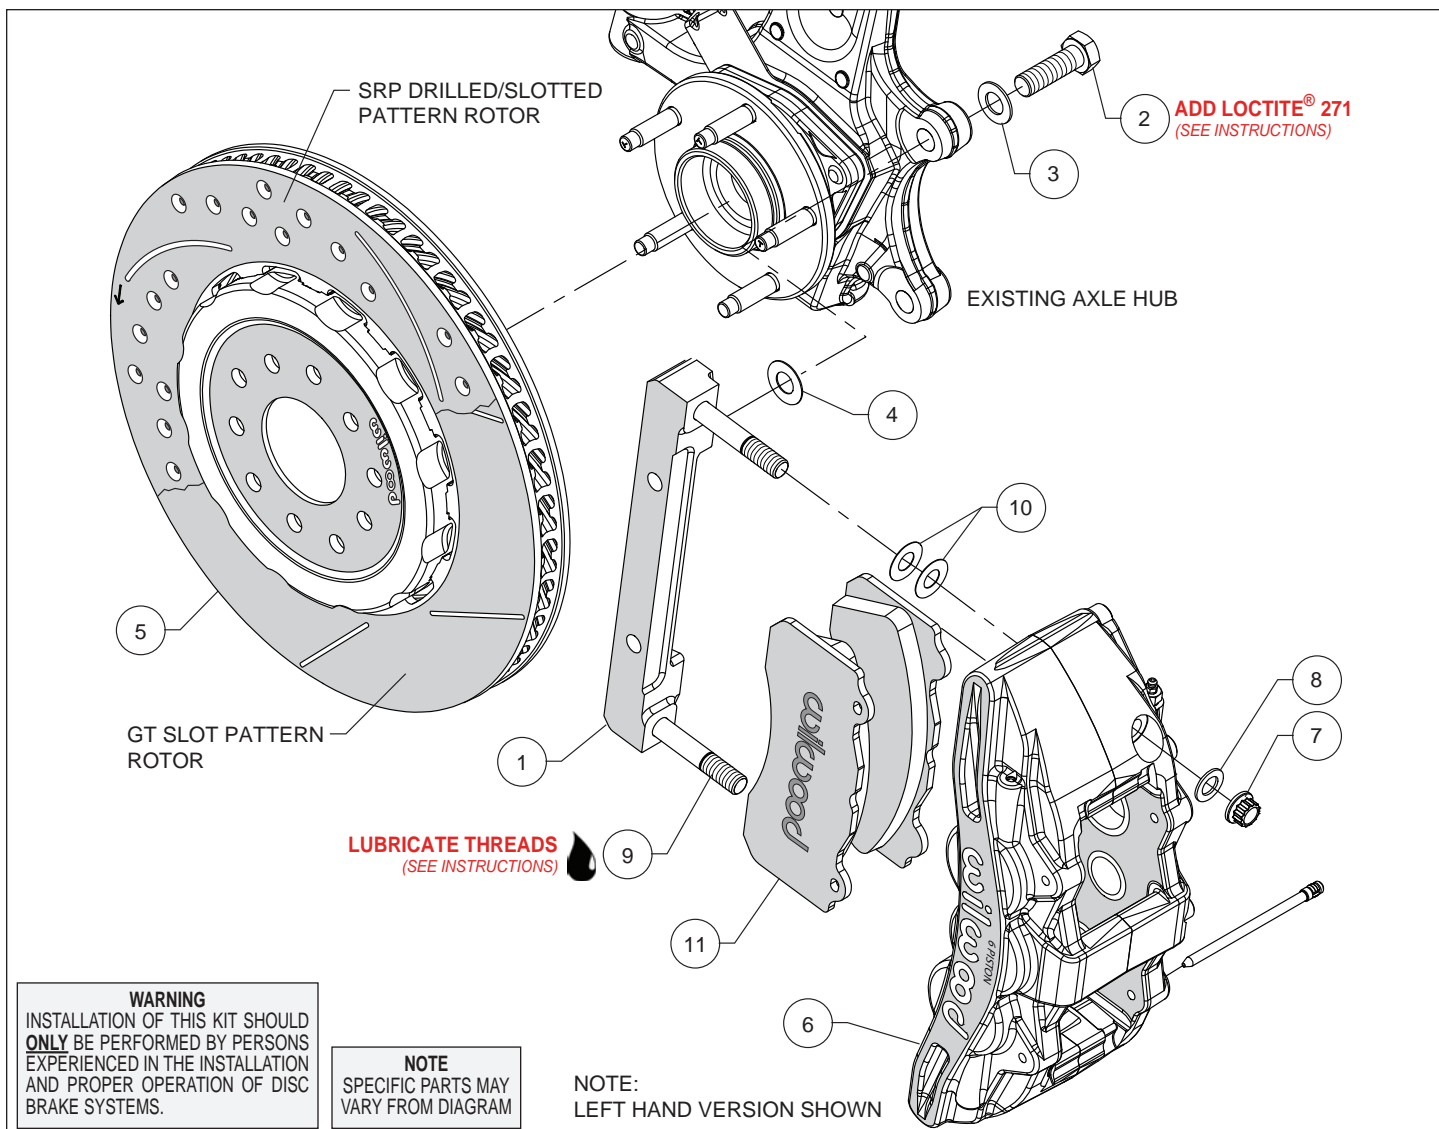

Figure 1. Typical Installation Configuration
Assembly Instructions (numbers in parenthesis refer to the parts list and Figure 1 on the preceding pages):
- The caliper mount bracket (1) should initially be installed with clean, dry threads on the mounting bolts. Orient the bracket, as shown in Figure 1 and Photo 1, and install using bolts (2) and washers (3). Initially place one .029" thick shim (4) on each bolt between the bracket and upright, Figure 1. Temporarily tighten the mounting bolts. **NOTE:** *The bracket must fit squarely against the mount bosses on the upright.* Inspect for interference from casting irregularities, machining ridges, burrs, etc. Later, after the caliper alignment has been checked, the mount bolts will be secured using red *Loctite*[®] 271.
- NOTE:** *This kit contains distinct right and left hand calipers that must be mounted in a specific direction, as described below.* Lubricate the caliper mounting studs (9) with lightweight oil. Initially place two .015" thick shims (10) on each stud between the caliper and the bracket, as shown in Figure 1 and Photo 3. Mount the caliper (6) onto the bracket (1) using lock nuts (7) and washers (8), Figure 1. Temporarily tighten the lock nuts. Ensure that the caliper is mounted so the largest pistons are at the rotor exit end of the caliper, in relation to the direction of the rotor. View the rotor through the top opening of the caliper. The rotor should be centered in the caliper, Photo 4. If not, adjust by adding or subtracting shims (4) between the bracket and the upright. Always use the same amount of shims on each of the two mounting bolts. Once the caliper alignment is correct, remove the bracket mounting bolts (2) one at a time, apply red *Loctite*[®] 271 to the threads, and torque to 77 ft-lbs.
- Remove the two pad retaining pins from the caliper (6) by pushing out the pins from the tapered end using a blunt instrument. Insert the brake pads (11) into the caliper from the bottom, Figure 1 and Photo 5. With the friction material facing the rotor, secure the brake pads in place with the pad retaining pins, Photo 6. Reinstall the caliper onto the caliper mounting bracket and temporarily tighten the lock nuts. Check that the top of the brake pad is flush with the outside diameter of the rotor, Photo 7. If not, adjust by adding or subtracting shims (10) between the caliper and the bracket. After the caliper pad height is set, torque the caliper lock nuts (7) to 65 ft-lb.